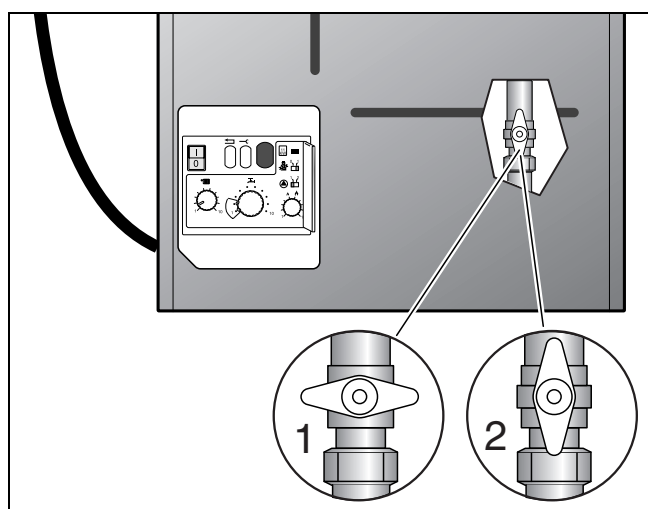

Fig. 29 Gas valve
- Close the gas shut off valve (fig. 29, item 1).
- Slowly open the gas shut off valve (fig. 29, item 2).